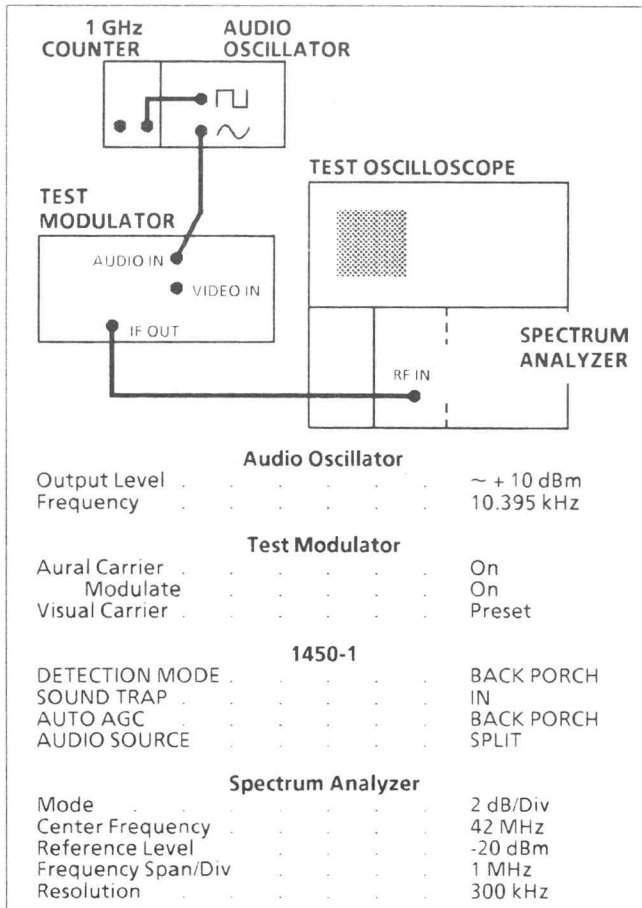

Fig. 4-60. Setup for obtaining 25 kHz deviation.
- a. Connect and set the test equipment as shown in Fig. 4-60.